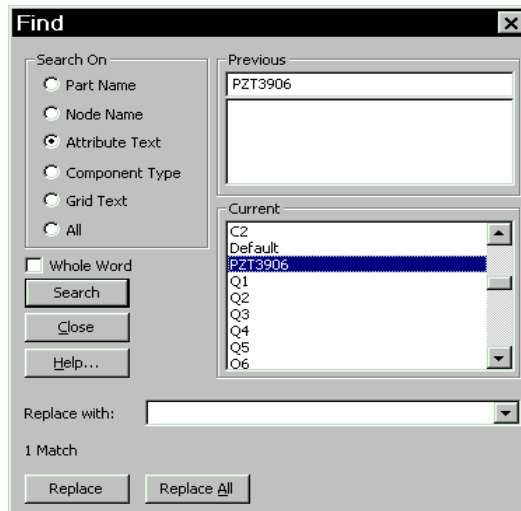

Figure 2-13 The Find dialog box
- **Find: (CTRL + F)** This invokes the Find dialog box shown in Figure 2-13. It is used to find and optionally replace circuit text, including part names, node names, attribute text, component type, and grid text.